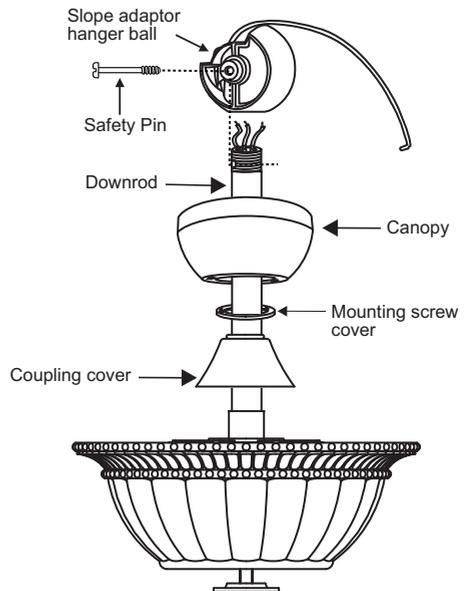

Fig. 12
6. Slip the coupling cover, mounting screw cover and canopy onto the downrod in the order shown. (Fig. 12)
7. Thread the Slope Adaptor Hanger Ball onto the downrod until the Safety Pin center hole on the Ball aligns with the safety pin hole in the downrod. Insert the safety pin (careful not to damage the lead wires.) (Fig. 12)